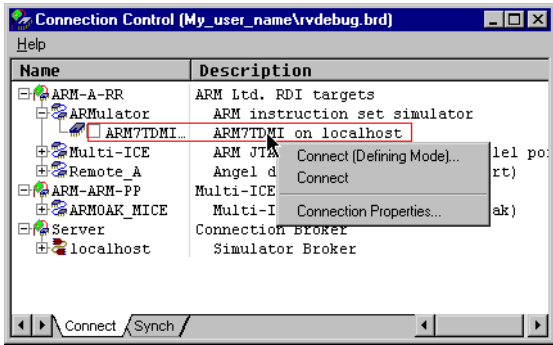

Figure 2-9 Connection menu
- Right-click on a connection entry and select **Connect** from the **Connection** context menu, shown in Figure 2-9 on page 2-10.
- Right-click on a connection entry and select **Connect (Defining Mode)...** from the **Connection** context menu, shown in Figure 2-9 on page 2-10.
1. Right-click on a connection entry, for example ARM7TDMI, using ARMulator, to display the context menu, shown in Figure 2-9 on page 2-10.